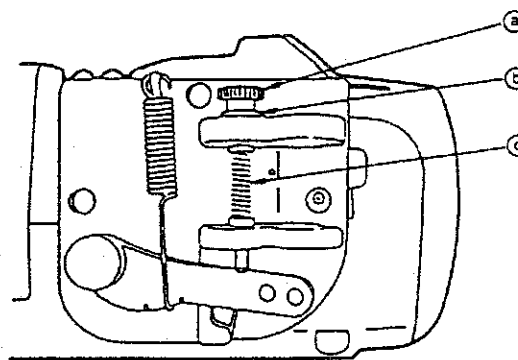

Fig. 56 Pedal sensor A asm.
② Attaching the parts
- Loosen rear part depressing pressure adjusting nut ⑥ of the pedal sensor A asm. (Fig. 56), and remove rear part depressing pressure adjusting screw ⑤. Then remove rear part depressing spring A ③ and replace it with rear part depressing spring B. Then attach screw ⑤ and nut ⑥ in position.